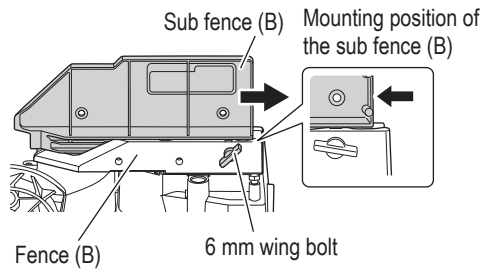

Fig. 20
5. Confirmation for use of sub fence (B)
When left bevel angle cutting, loosen the 6 mm wing bolt, then slide the sub fence (B) outward, as shown in Fig. 20. Failure to do so may result in the main body or saw blade coming into contact with the sub fence (B) and causing injury.
In the case of direct angle cutting and right bevel angle cutting, slide inward to the position where the sub fence (B) hits, and secure it with 6 mm wing bolt. (as shown in Fig. 20)
When changing the bevel angle to the left 45°, loosen the 6 mm wing bolt shown in Fig. 20, then slide the sub fence (B) outward and incline the motor head to the left.